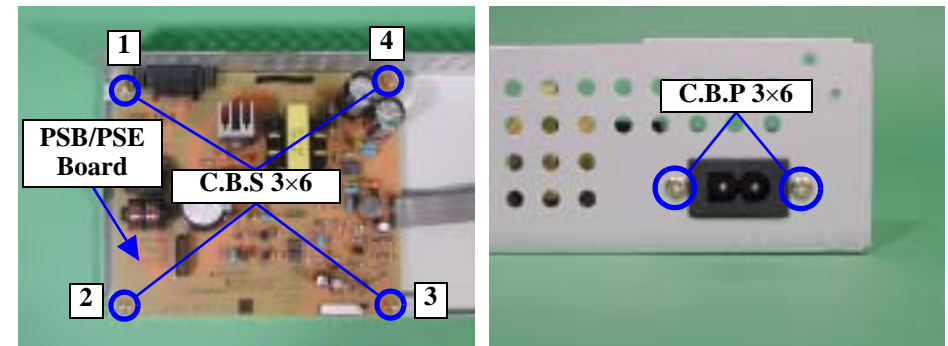

Figure 4-19. Screws That Secure the PSB/PSE Board
- Fit the screws 8) C.B.P 3×6 in the order shown in Figure 4-19.